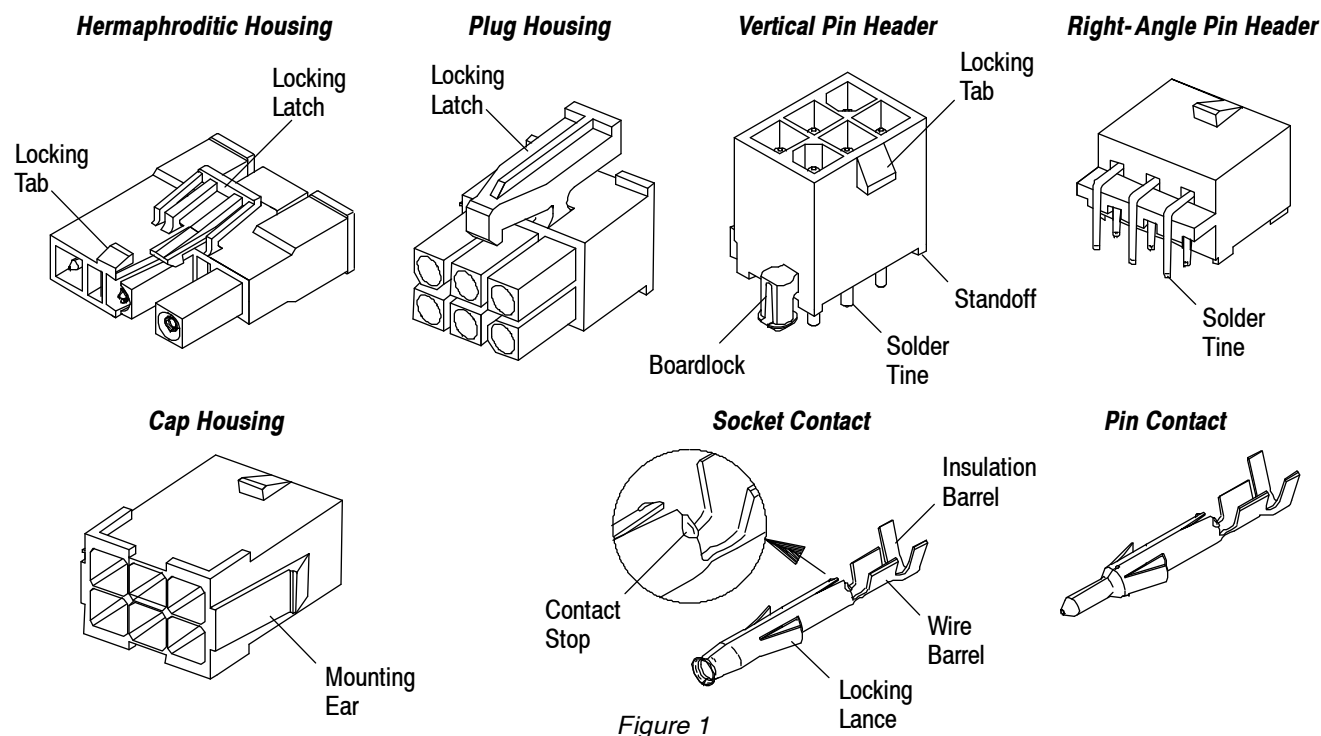

Figure 1
When corresponding with personnel, use the terminology provided in this specification to facilitate your inquiries for information. Basic terms and features of this product are provided in Figure 1.
- Added hermaphroditic housing to Figure 1 and contact stop to Section 1, Figures 1 and 10, and Paragraph 3.2,C